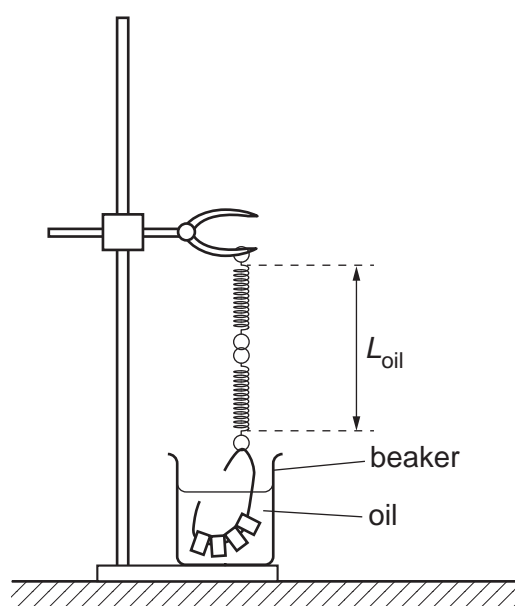

Fig. 2.3
- Gently lower the nuts into the oil until they are submerged but not touching the bottom of the beaker, as shown in Fig. 2.3.